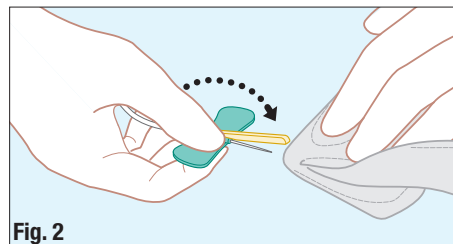

Fig. 2
9. Flip the safety shield forward toward needle. Grasp the wing with your thumb on top of the shield and your index finger under the wing. Completely remove the needle from the puncture site and apply digital pressure to the site using a sterile gauze pad. (Fig. 2)